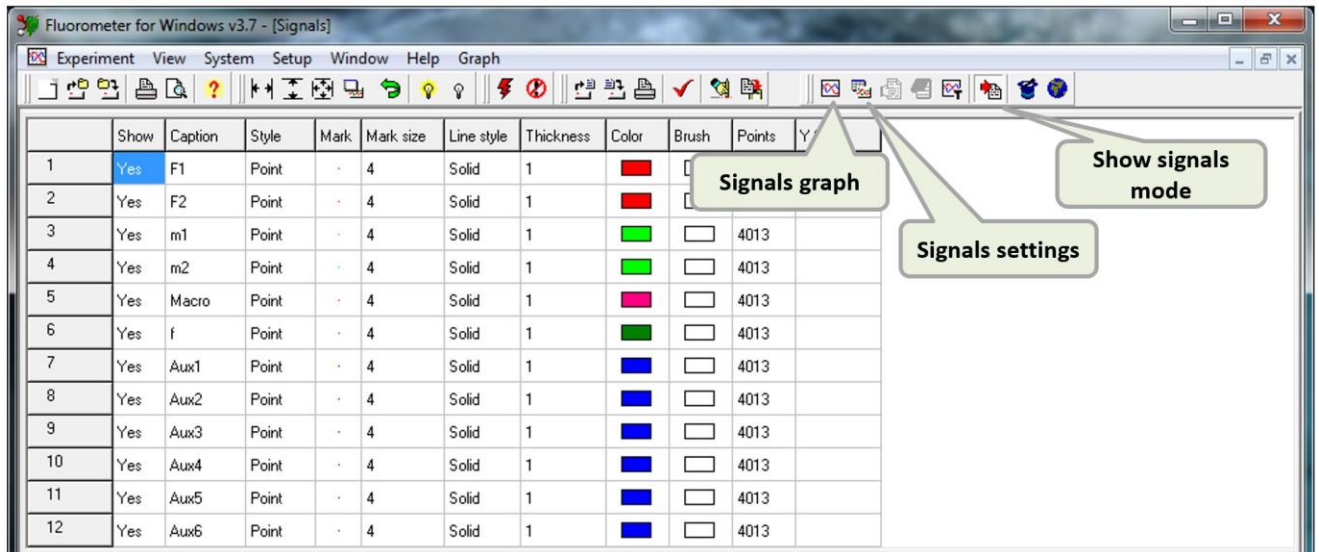

Fig. 33 Signals setting.
- Each successfully compiled Current protocol script can be visualized using the **Show signals** icon (F4). Graph and DataSet table icons behave than in "Show signals" mode. DataSet table shows the list of accessible TTL signals, which can be displayed in the graph window (with the help of Graph icon now). Each row has predefined Caption with the respect of the protocol script commands (Fig. 33).